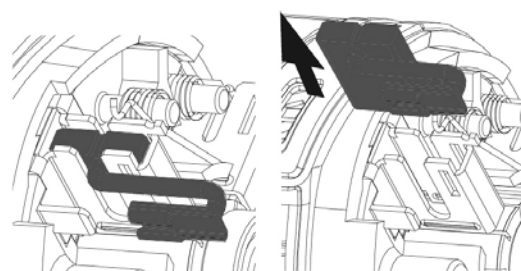

Fig.5
- (5). Take out right and left sides of carbon brushes .( See Fig.5)